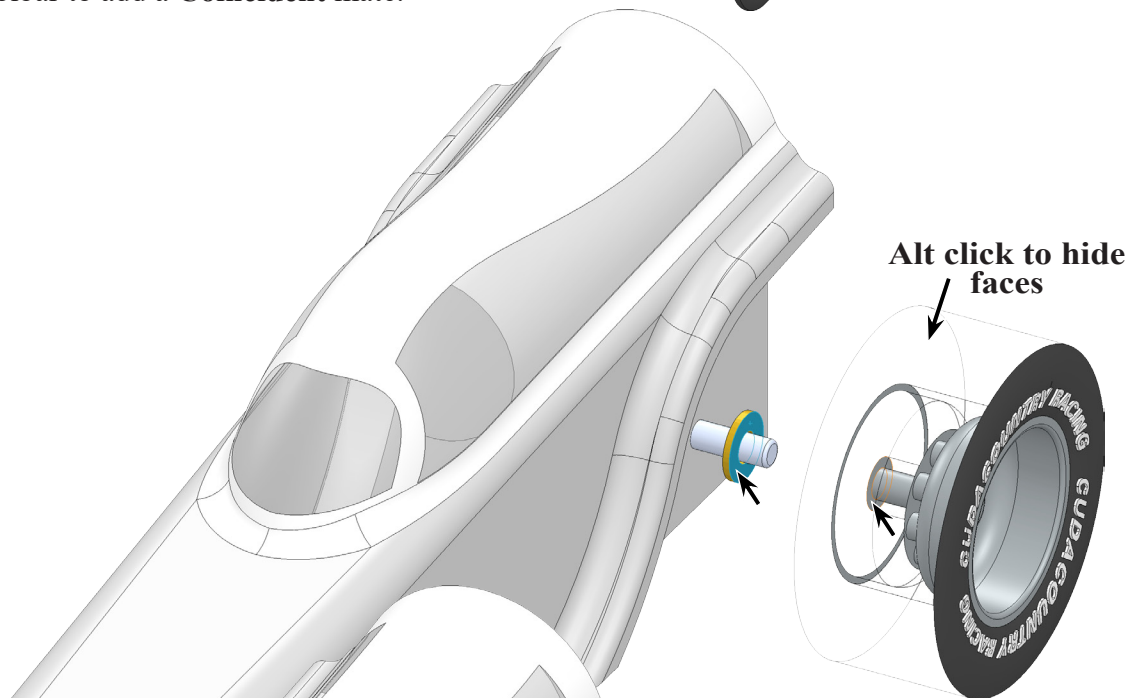

Fig. 16
Step 3. Click **side face of Washer**, Fig. 16.
Step 4. Click **outside face of Washer** and **hide face of Tire and Rim**, click **inside face of Rim**, Fig. 16. Keep Alt-clicking to hide faces.